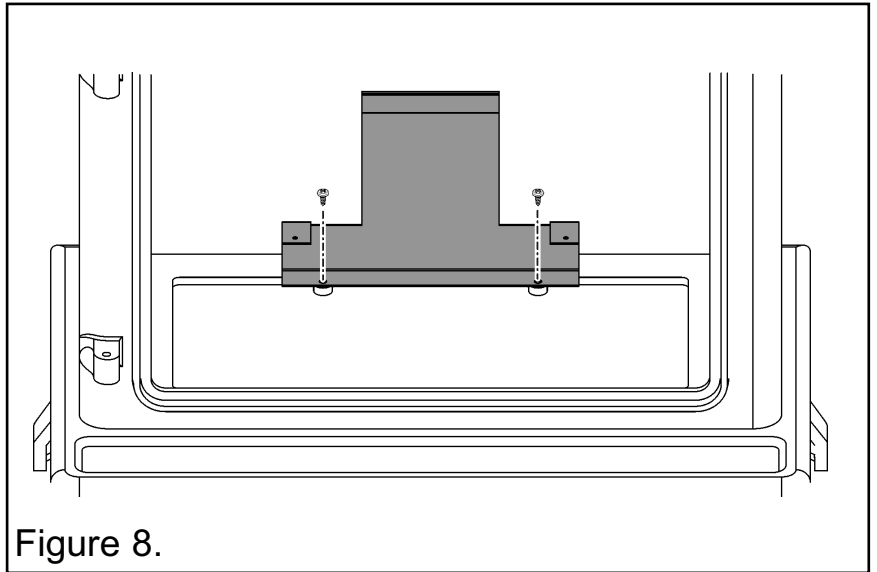

Figure 8.
3. Secure the rear leg at the back of the stove base using two No.4 x 10mm screws supplied (See figure 8).